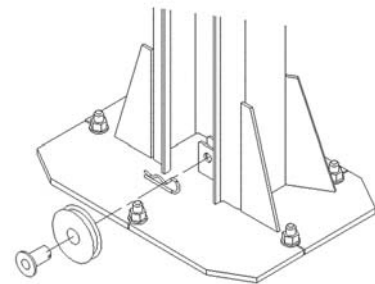

Figure 14: Pulley Pin
7. At the bottom of the column, remove the hitch pin, pulley pin and pulley from the baseplate (**Figure 14**). Route equalizing cable around pulley and reassemble the pulley to the baseplate. **IMPORTANT – Hitch pin must be installed securely.**